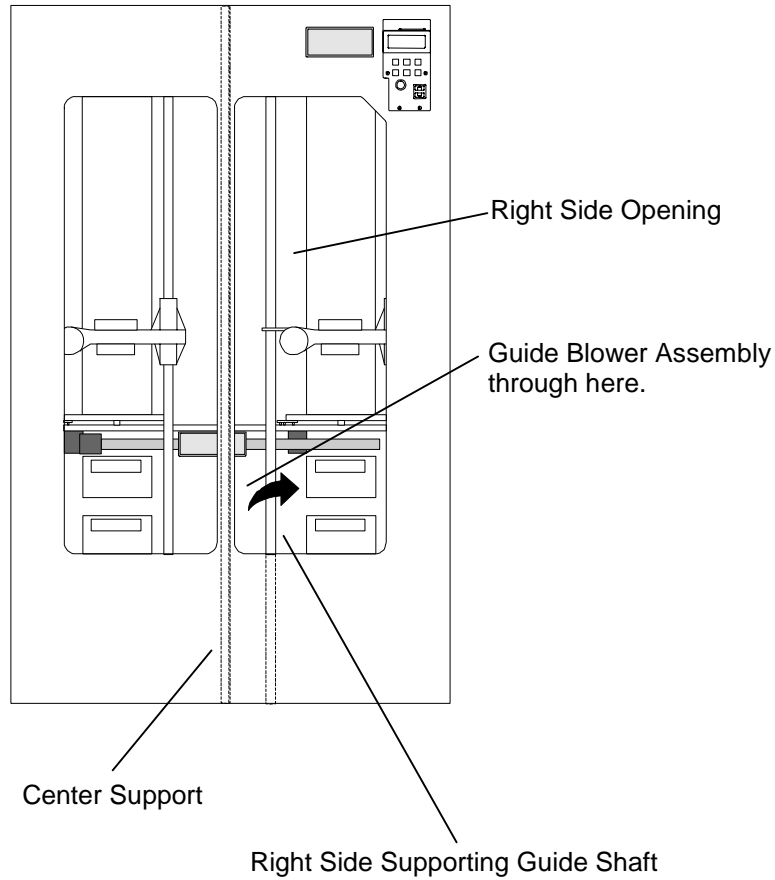

Figure 7-27 Path for Blower Assembly Removal/Replacement
8. Carefully guide the Blower Assembly between the right side Supporting Guide Shaft and the center. See Figure 7-27. After the Blower Assembly has cleared the shaft and the center support remove it through the front opening.
1. Insert the Blower Assembly through the front opening on the right side of the library. Carefully maneuver the Blower Assembly between the right side Supporting Guide Shaft and the center support. See Figure 7-27.